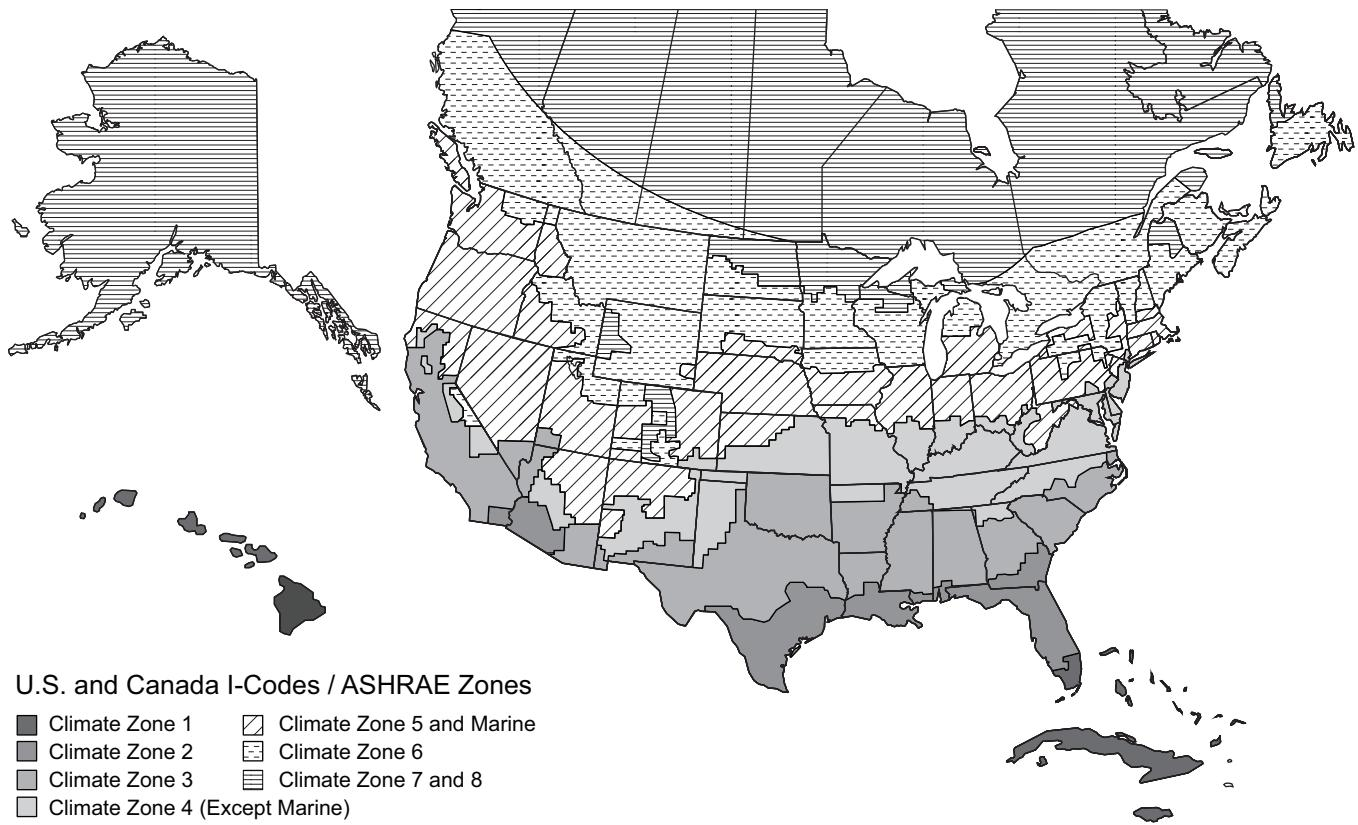

Fig. 92 — U.S. and Canada Climate Zones
- Refer to Fig. 92 for map of U.S. and Canada climate zones.